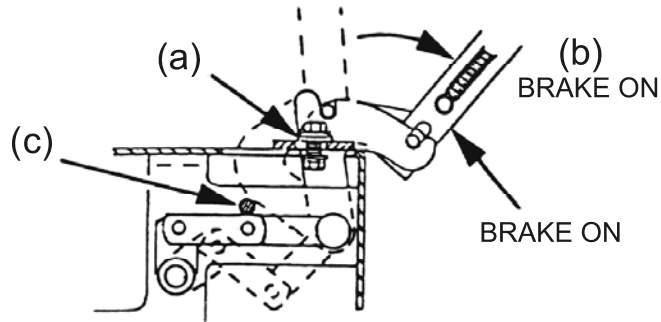

FIGURE 9
- Install hairpin clips in the holes for the desired cutting height (See Figure 9).
- d) Check linkage to ensure that they butt up against the over-centering stop bolt (c), and retighten the two 5/16-18 screws (See Figure 9).